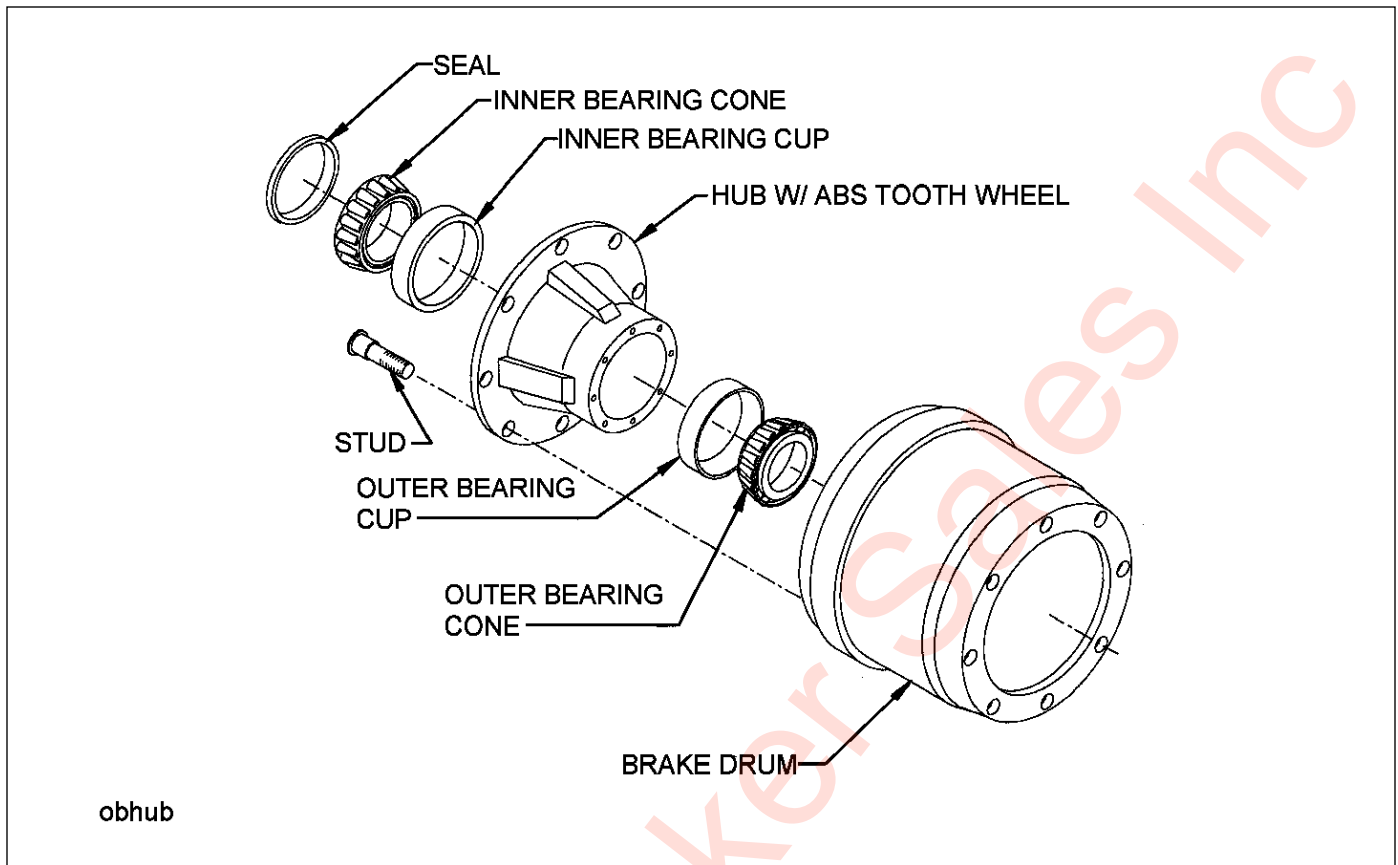

Figure 4-11: Outboard Mount Hub and Drum
7. Replace the hub and drum as follows (**See Figure 4-11.**):
- a. Remove the brake drum (**See Figure 4-11.**) It may be necessary to release the slack adjuster.